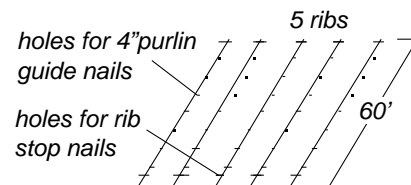

Fig. 5. Rib layout.
- j. Lay out the ribs (Fig. 5). Glue ribs (f4 to f7) and sub ribs (f10) together. Use the printing on the pipes to visually align the drilled holes. Use PVC cement (f11) and pound ribs together from one end for a completely embedded tight coupling fit. Joints can distort during bending only due to poor gluing. If this happens, re-lay the rib flat and attach the couplings with screws (see Step 1s).
- k. Tap the 4" nails (f16) into the holes at each end of the 5 ribs (Fig. 5). These control the depth of rib insertion into the sockets. Do not force larger nails into these holes; they may split the pipes. Then tap the nails into the rib holes at 2.5' spacings. These support the purlin ties (Step 2b). For smaller rib sizes, use nails 1" longer than the rib diameter. This allows enough projection to support the purlin ties, but not enough projection to snag fanfolds as they are tag-lined over the purlins and sub-ribs (Step 5d).